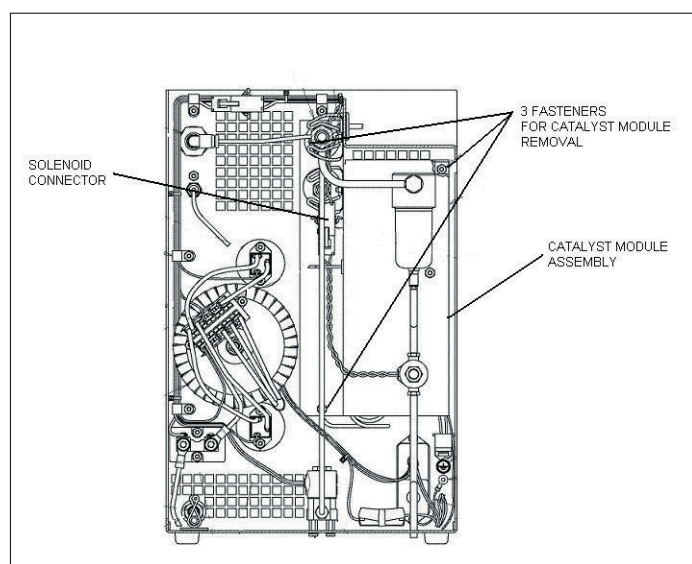
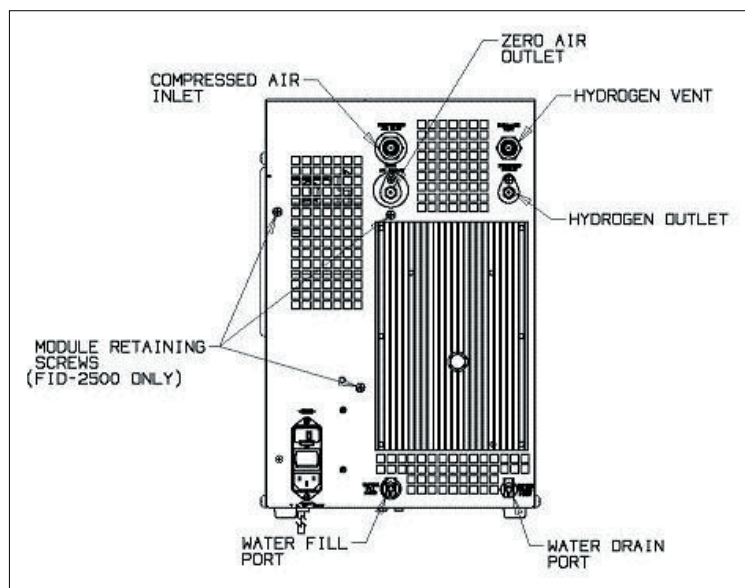

Figure 17 - View Toward Rear of Unit, Model FID-1000
Figure 16 - Rear View (FID-2500 shown, FID-1000 similar)
- Remove connections to inlet and outlet air ports at the rear of the generator (figure 16).
- Remove 3 fasteners holding the catalyst assembly module at the rear of the generator – See figure 16 for FID 2500 or figure 17 for FID 1000.